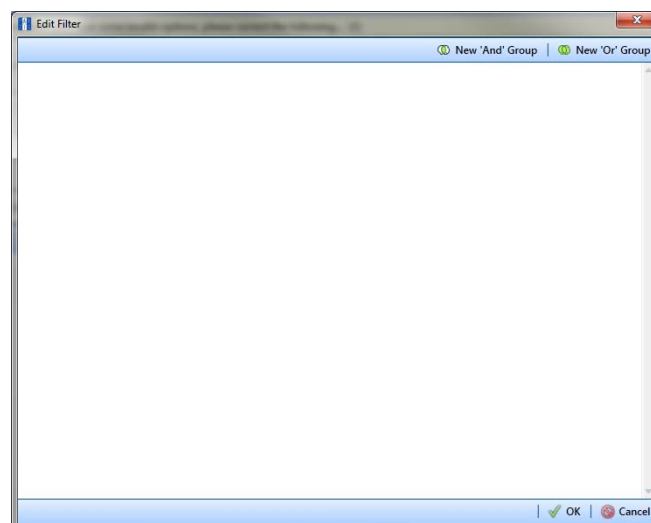

Figure 9-36. Edit Filter
- b** Click  **Edit** in the *Filters* group box to open the *Edit Filter* dialog box (Figure 9-36).